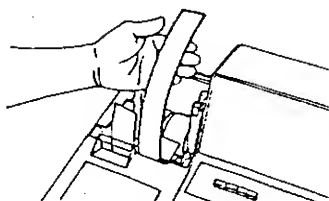

Fig. 9
6. When the paper comes out of the journal outlet for approx 20cm (or 8 inches), release the **JF** key (Fig. 9).